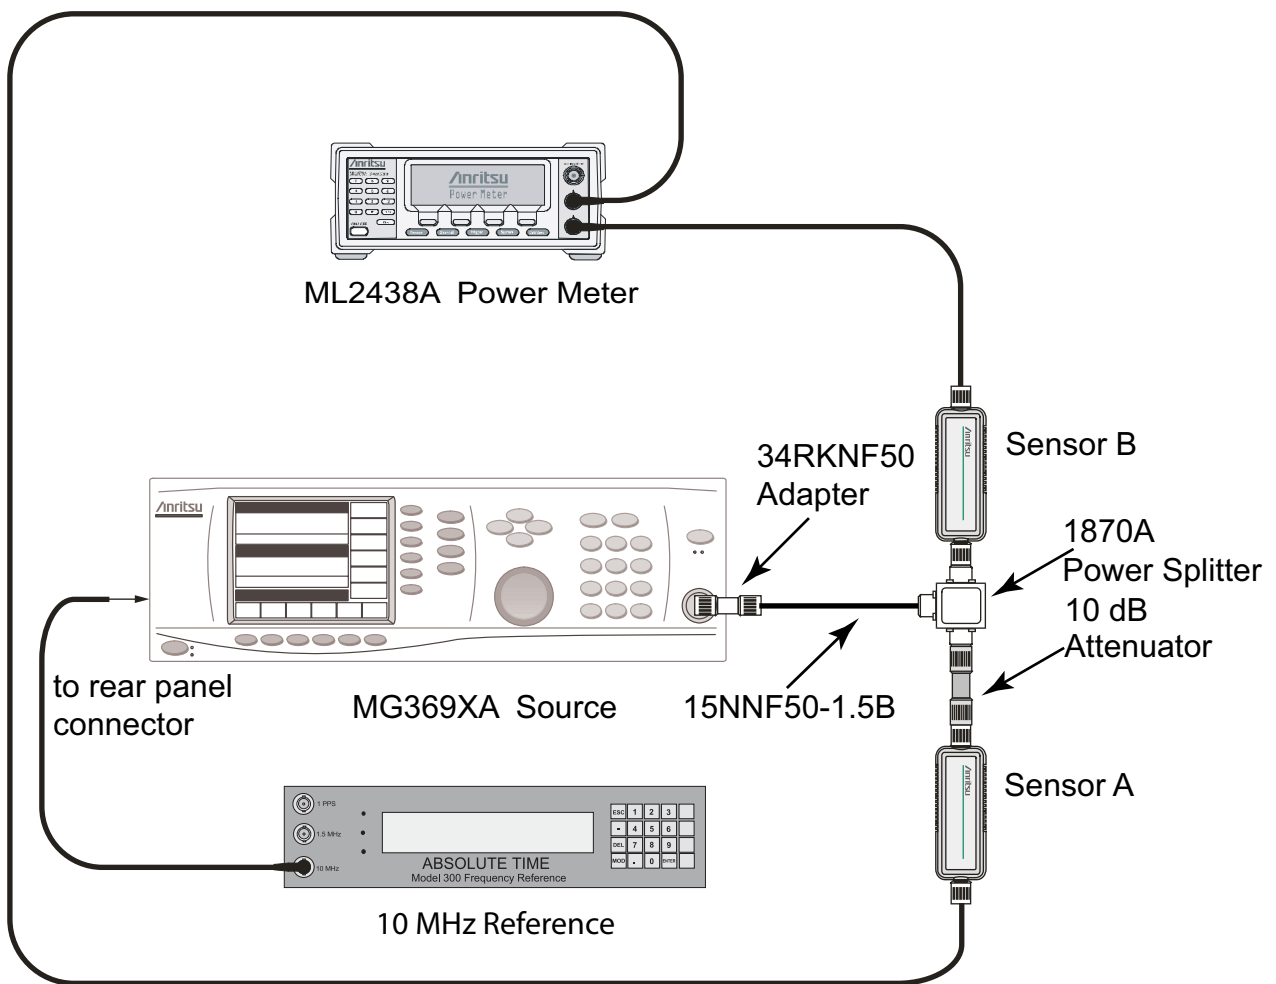

Figure 2-6. Spectrum Analyzer Level Accuracy Verification Characterization Setup
1. Turn on the power meter and the Synthesized Signal Generator as shown in Figure 2-6.
9. Connect the power splitter to the Synthesized Signal Generator output and connect Sensor B to one of the power splitter output connections. Install the 10 dB Fixed Attenuator to the other power splitter output connection and then connect Sensor A to the end of the Attenuator. Refer to Figure 2-6.